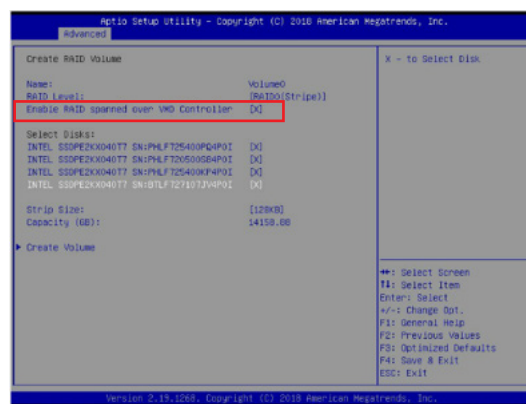

Figure F-4. Created Volume *with* enabling RAID spanned over VMD controller
11. If cross-controller RAID is required, select **Enable RAID spanned over VMD Controller** as shown in Figure F-4. Do not select Spanned for a bootable RAID volume.